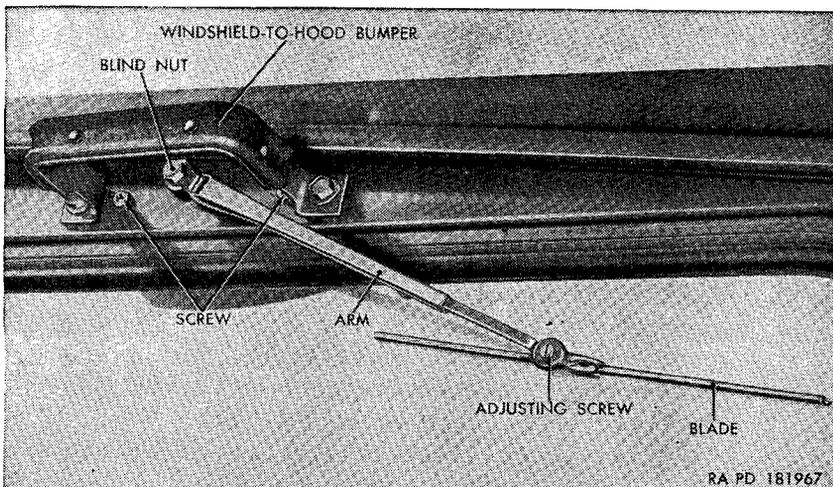

Figure 186. Windshield wiper blade and adjustable arm assemblies—installed.
a. Windshield wiper blade assembly (fig. 186).
- (1) *Removal.* Lift up on the windshield wiper adjustable arm assembly. Lift the lower end of the windshield wiper blade assembly to unlock the blade from the arm. Remove the blade.
- (2) *Installation.* Lift the windshield wiper adjustable arm up. Hook the windshield wiper blade, upside down into the arm, push the lower end of blade toward windshield, and lock blade in position. The position of the blade can be adjusted by loosening the adjusting screw at the end of the arm, setting blade in desired position, and tightening the screw.
b. Windshield Wiper Adjustable Arm Assembly (fig. 186).
- (1) *Removal.* Remove the windshield wiper blade assembly (a(1) above). Unscrew the blind nut securing the wind-
tee for left motor and windshield wiper-to-center line for right motor) (E and K) from the fitting on the windshield wiper vacuum motor assembly (F and L). Remove one lockwasher screw from the windshield-to-hood bumper assembly (fig. 186), loosen the other lockwasher screw, and let one end of the bumper drop to permit removal of the screws securing the motor. Remove the two internal-teeth lockwasher screws securing the motor to the windshield frame. Remove the two windshield wiper mounting spacers and remove the motor from the frame.
- (2) *Installation.* Working inside the vehicle, insert the serrated shaft of the paddle within the windshield wiper vacuum motor through the hole in the windshield frame. Slide the hose (windshield wiper-to-tee for left motor and windshield wiper-to-center line for right motor) (E and K) onto the fitting on the motor. Working outside the vehicle, insert two No. 10-32NF-2 x $\frac{7}{8}$ internal-teeth lockwasher screws into the windshield frame. From the inside of the windshield frame, insert one windshield wiper mounting spacer on each screw and screw into the motor. Secure the windshield-to-hood bumper (fig. 186) to the windshield frame with two $\frac{1}{2}$ x $\frac{1}{2}$ lockwasher screws. Install the windshield wiper adjustable arm (*b*(2) above). Install the windshield wiper blade (*a*(2) above). Start engine and check motor for proper operation.